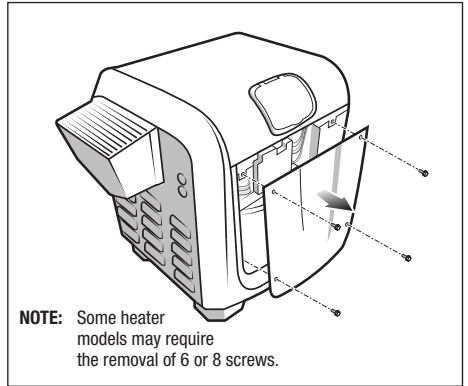

Figure 3. Remove Front Panel
- Remove the screws holding the front heater panel in place to expose the raceway. See *Figure 3*.